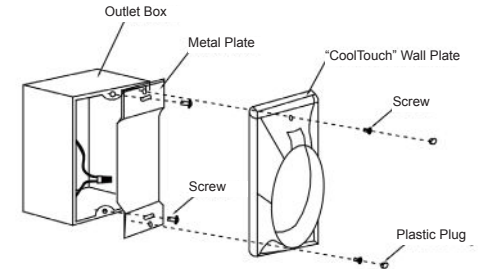

Fig. 26
Step 2. Install the metal plate and “CoolTouch” wall plate to the existing wall outlet box with 4 screws provided. Then place the two plastic plugs into the wall plate. (Fig. 26)